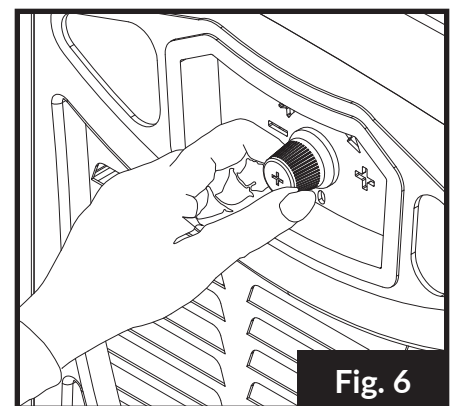

Fig. 6
2. To adjust this temperature, turn the thermostat knob clockwise to set a lower temperature. (Fig. 6)